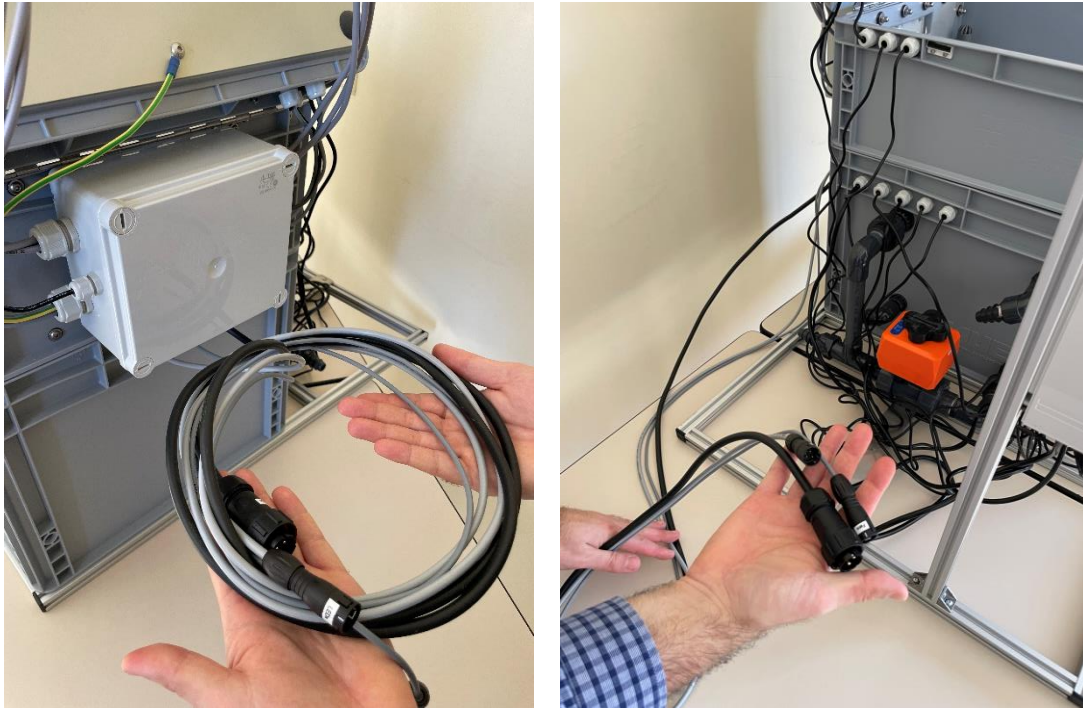

Fig. 16: Assembly step 13.
- 13- Release the cables around the grey electric box behind the Experiment tank and bring the cables around the Intertidal chamber, from the back of the tanks, up to the Control unit (**Fig. 16**).